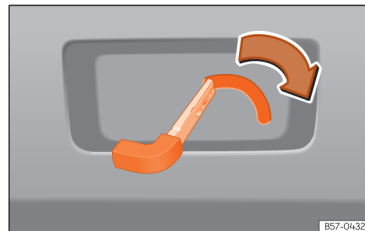

Fig. 64 Luggage compartment: manual release.
- Insert the key blade into the slot and move the key in the direction of the arrow until the lock unlocks »» Fig. 64.